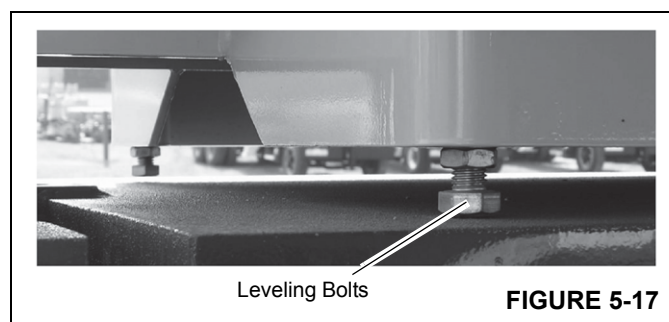

FIGURE 5-17
9. Adjust the four counterweight leveling bolts (Figure 5-17) to eliminate any relative movement between the counterweight and the turntable.